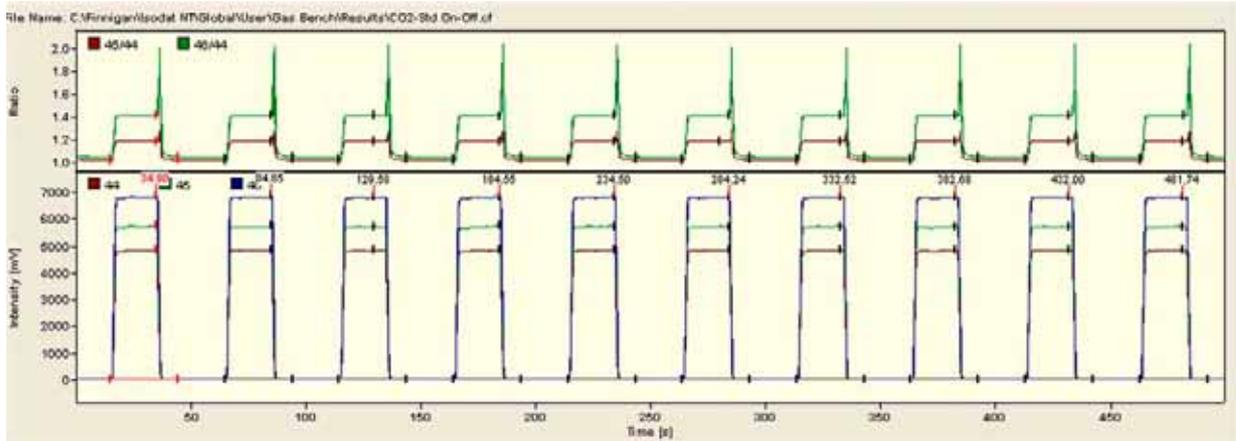

Figure 4-3. Zero Enrichment - Chromatogram
**Note.** If the capillaries got entangled, the reference gas peaks shown in Figure 4-3 begin to differ in peak height.